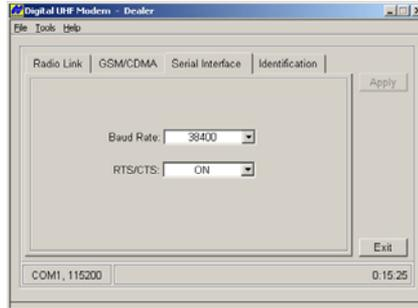

Figure 3-3. Apply Baud Rate Parameters
4. On the *Serial Interface* tab, select the following baud rate parameters and click **Apply** (Figure 3-3).